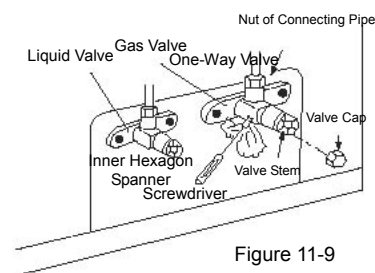

Figure 11-9
- Completely open the valve body of the liquid valve and the gas valve. ( Figure 11-9)